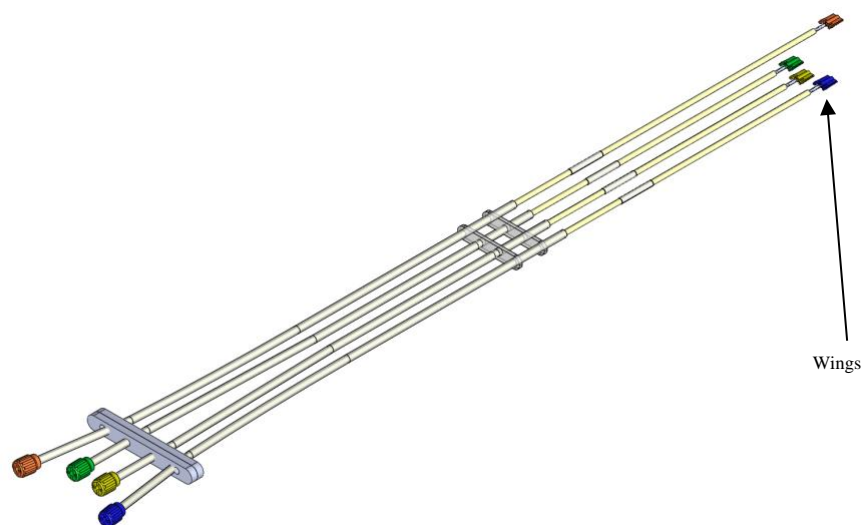

Figure 10: Thumb Wheel Extension
1. Remove the Thumb Wheel Extension Set from its sterile barrier package. See Figure 10.